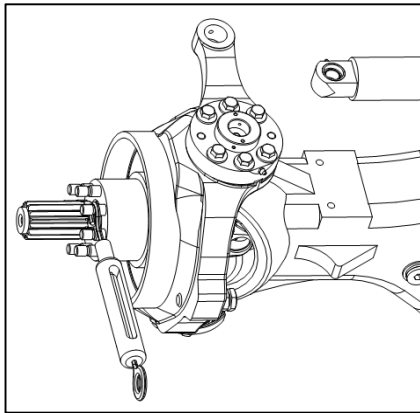

Fig. 1
- (1) Install the half-shaft assembly into the axle body first.
- (2) Insert the left and right steering knuckles (No. 30 and No. 75) onto the half shaft assembly and rear axle body (No. 11).
- (3) Press the inner ring of the angular contact joint bearing (No. 41-1) into the lower support pin (No. 42).
- (4) Insert the dust ring into the lower support pin, apply a thin layer of lubricating grease on the surface of the inner ring (convex) ball of the joint bearing, align the bolt holes, install the lower support pin into the steering knuckle and rear axle body, and tighten the hexagonal flange bolt (No. 43).
- (5) Insert the appropriate adjustment plate (No. 29) into the left and right steering knuckle arms and adjust the gap to ensure that the gap is within 0.1.
- (6) Apply a thin layer of lubricating grease to the outer surface of the left and right steering knuckle arms, align the bolt holes of the left and right steering knuckle arms, and install them into the steering knuckle and rear axle body and tighten the hexagonal flange bolts (No. 26).
- (7) Measure the starting force of the steering knuckle at the tangent direction of the double-head bolt, and measure it separately on the left and right sides before injecting lubricating grease. The starting force should be less than 30N. As shown in Fig. 1
First, remove the hex socket cap screw (No. 28) with an Allen wrench, adjust the gap between the brake pad and the brake drum to the maximum, and then tighten the round nut (No. 27) with a special wrench, with a tightening torque of not less than $200\text{N} \cdot \text{m}$. Rotate the brake drum for 2-3 turns to make sure that the bearing is properly in place, and then tighten it with a torque of not less than $200\text{N} \cdot \text{m}$. Next, reverse the round nut by $1/4$ - $1/6$ turns, rotate the brake drum by 2-3 turns, and pull the wheel hub bolt along the tangent direction with a spring scale to measure the starting force. The value should be 30-55N, as shown in Fig. 1. Finally, screw in the hexagonal socket head cap screw (No. 28).